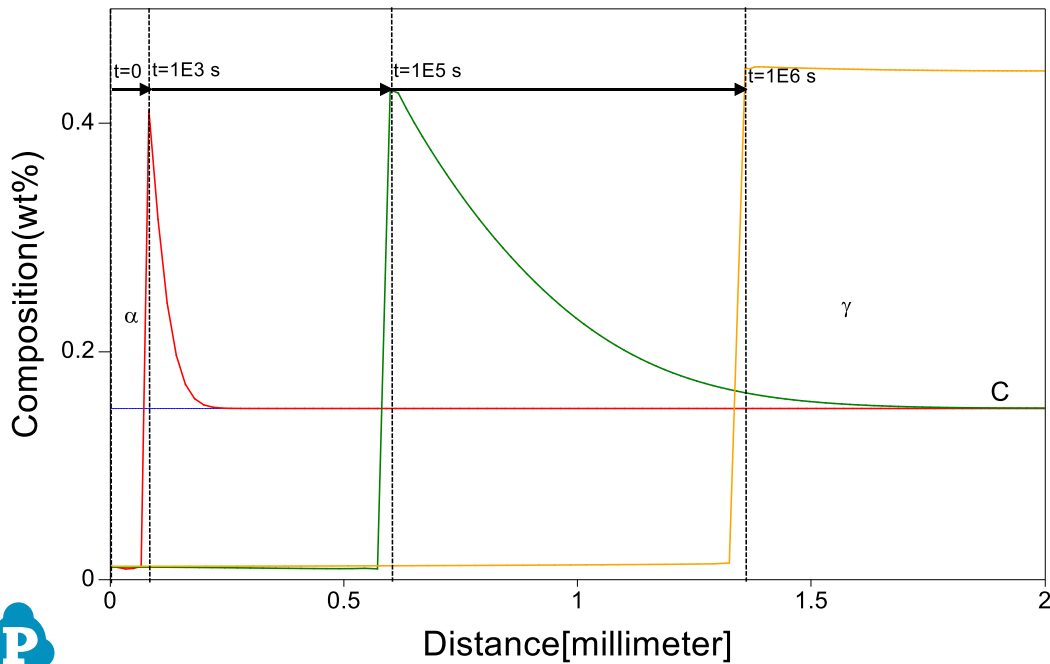

Figure 4.10.2: Calculated composition profiles at 1050 K for 1E3 seconds, 1E5 seconds and 1E6 seconds
- The calculated plot is shown in Figure 4.10.2. Enlarge the composition range between 0 and 0.5 (wt%) to clearly display Carbon composition. Add text and change graph appearance following the procedure in Pandat User's Guide 2.3.1;